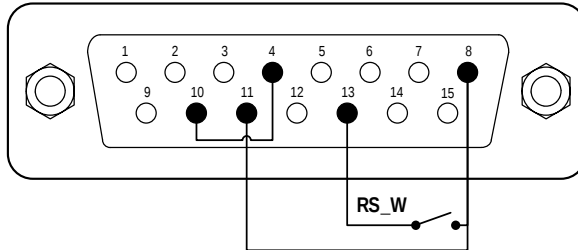
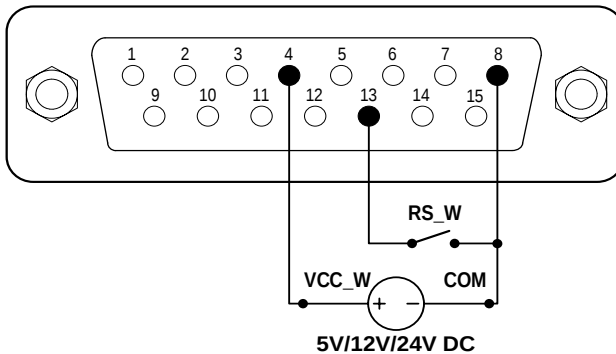

Figure 15. Logic Level 1 Control with Internal 12V Power Source
Figure 16. Logic Level 1 Control with an External Power Source
- 1) Turn off the power. Wire the DB15 connector as shown in Figure 15 or Figure 16, and connect it to the DB15 port on the rear of the pump.